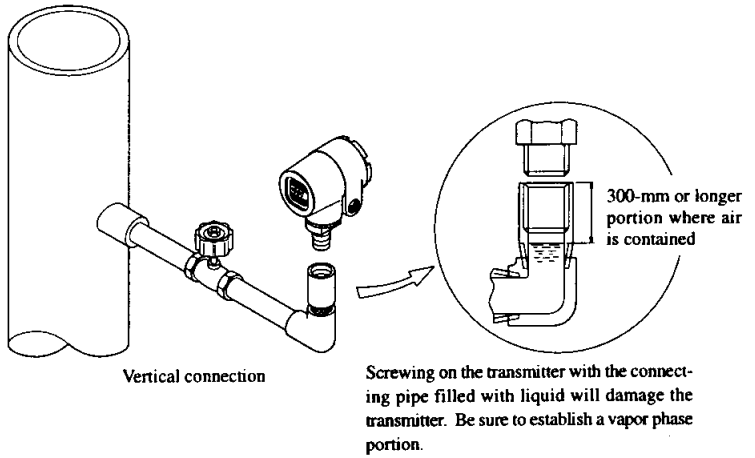

Fig. 2-2 Installation precaution 2
- During filling the connecting pipe with liquid, 10 MPa or an equivalent pressure may be applied. If this product is screwed into a connecting pipe during filling, critical damage to the transmitter may result. (See Fig. 2-2.)